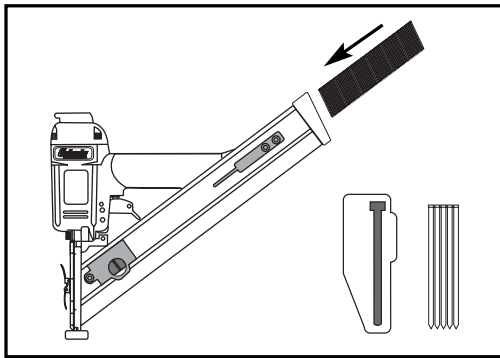

Figure 1. Loading the nailer (side view and end view). Match nail heads with head slot for insertion.
2. Load nails at the top of the magazine in the T-slot as shown in **Figure 1**.